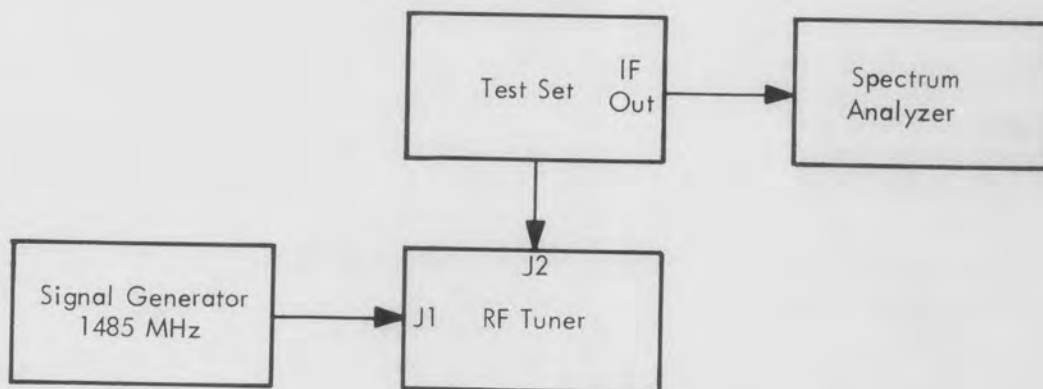

Figure 5-4. AGC Slope Adjustment, Test Equipment Setup
- (1) Set up test equipment as shown in figure 5-4. Set controls as follows: